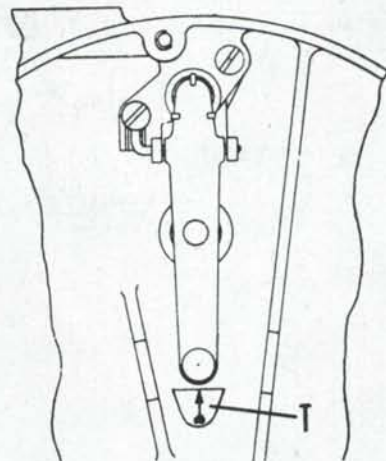

Fig. AC51C—Location of post or boss with stamped arrow for the purpose of setting the fuel inlet valve lever.
A boss or post (T—Fig. AC51C) is machined and marked with an arrow to assist in setting the lever. Be sure to center the lever on the arrow before tightening the screws which retain the valve block. The top of the lever should be flush with the top of the boss or post (T).